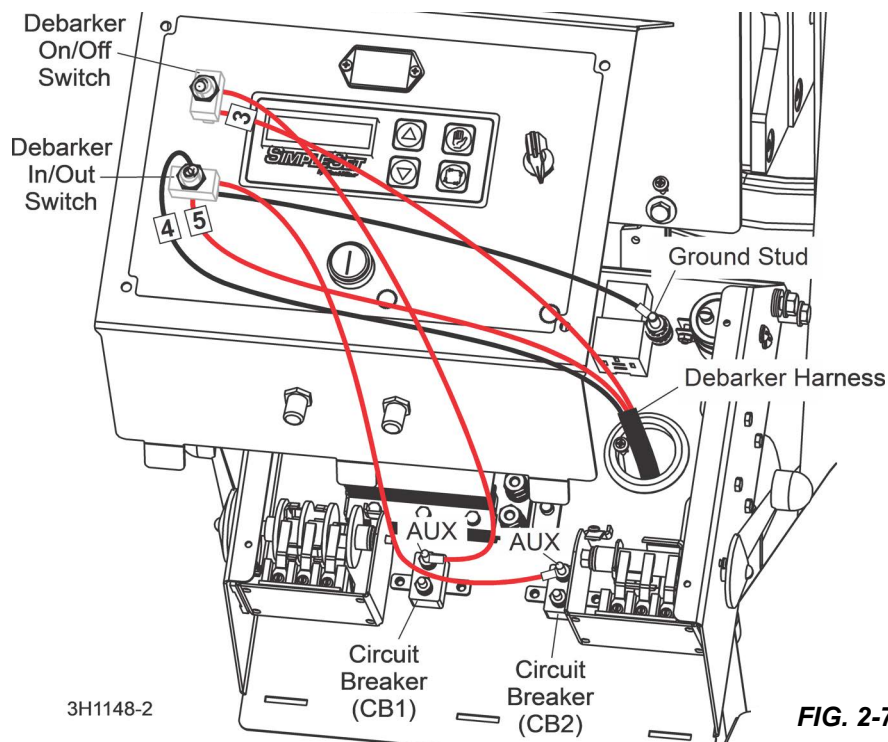

FIG. 2-7
4. See Fig. 2-7. Connect the red wire from the AUX post of the circuit breaker CB1 to the top terminal on the debarker on/off switch.